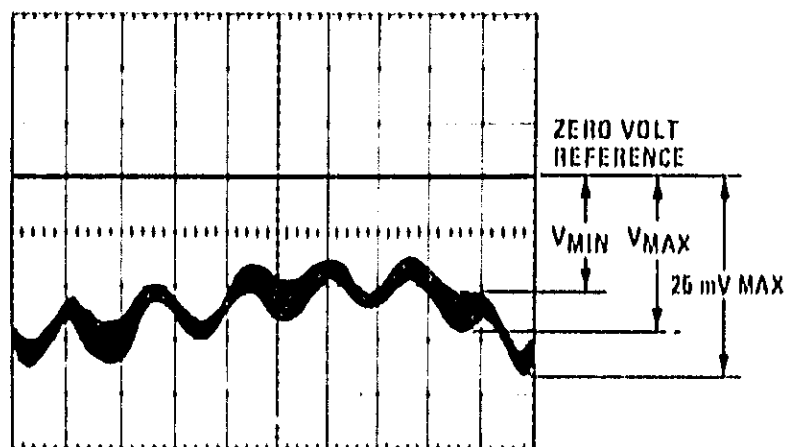

Figure 4-11. Typical Low Frequency Swept SWR Measurement
4. Select points on trace where V_{MAX}/V_{MIN} appear to have greatest separation and calculate V_{MAX}/V_{MIN} for each point (see Figure 4-11).